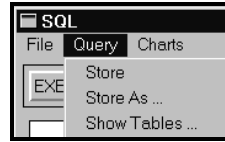

Figure 3-80. SQL > Query Menu
As shown in Figure 3-80, the Query menu contains three (3) choices. They are Store, Store As... and Show Tables.